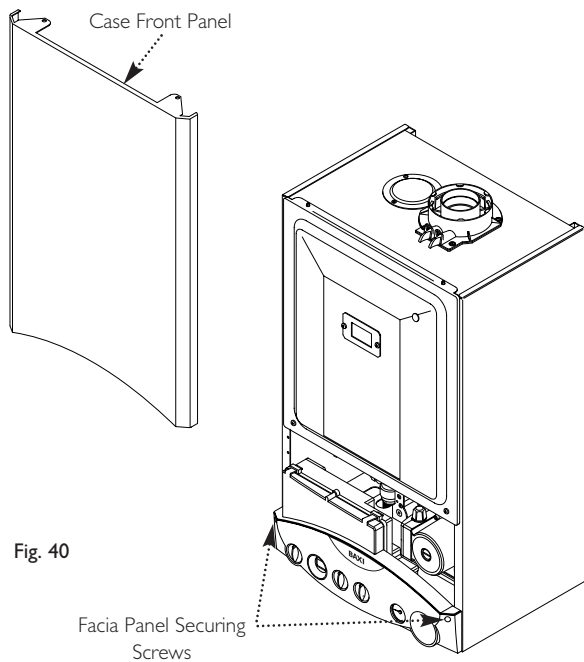

Fig. 40
5. Slacken the screws securing the fascia panel. Lift the outcase panel so that its securing tabs are clear of the fascia. Remove the panel, allowing the fascia to hinge down (Fig. 40).